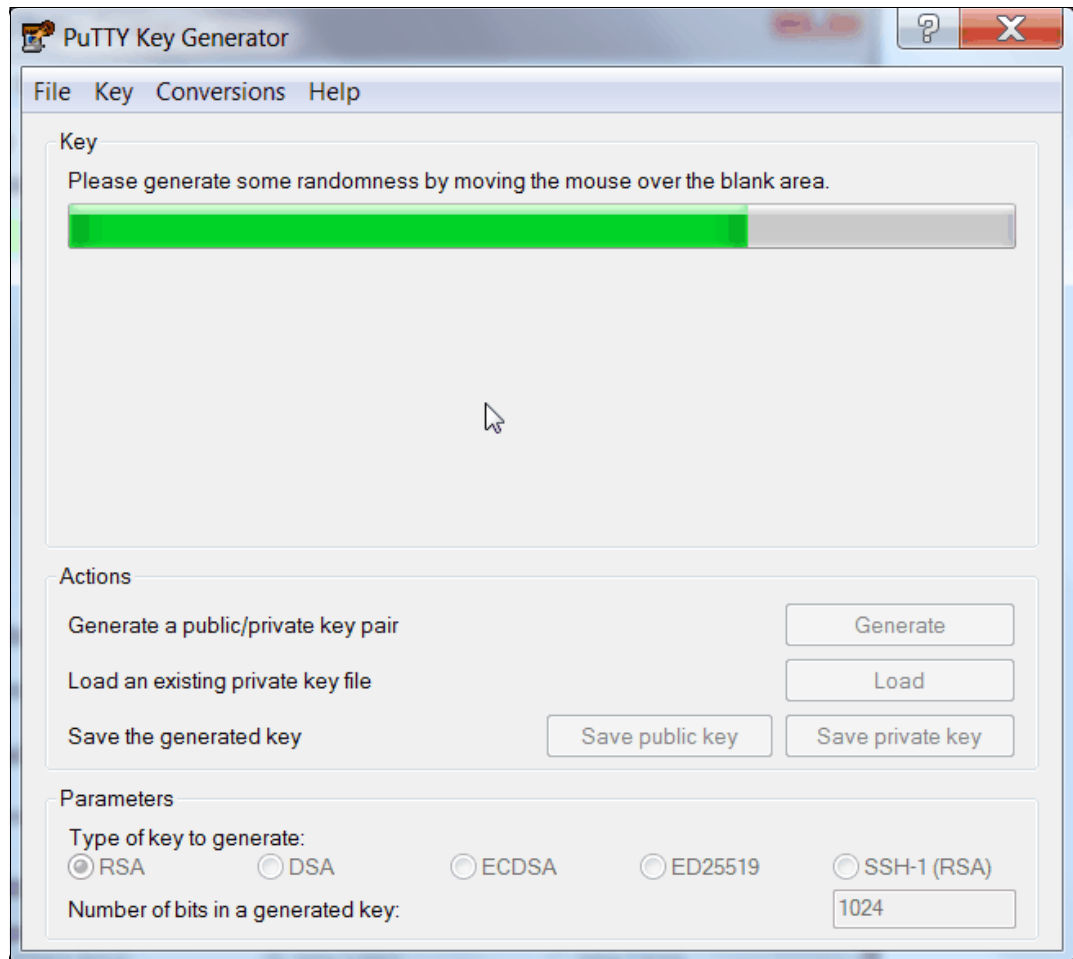

Figure A-3 Generate keys
2. Click **Generate** and move the cursor over the blank area to generate keys (see Figure A-3).